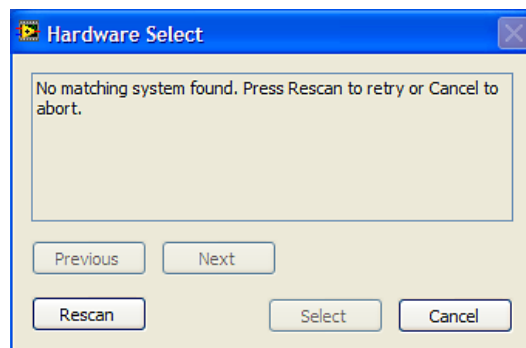

Figure 7. Connectivity Error Alert
2. If the evaluation system is not connected to the USB port when the software is launched, a connectivity error dialog displays (see Figure 7). Connect the evaluation board to the USB port of the PC, wait a few seconds, click **Rescan**, and follow the instructions.